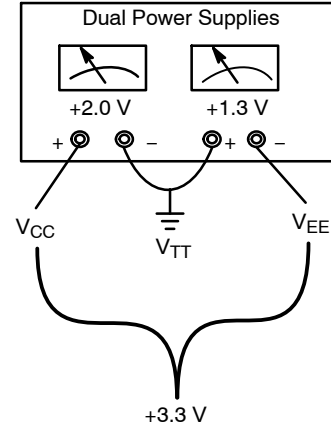

Figure 2. “Split” or Dual Power Supply Connections
1. Connect a “split” power supply to the evaluation board. (see Figure 2)